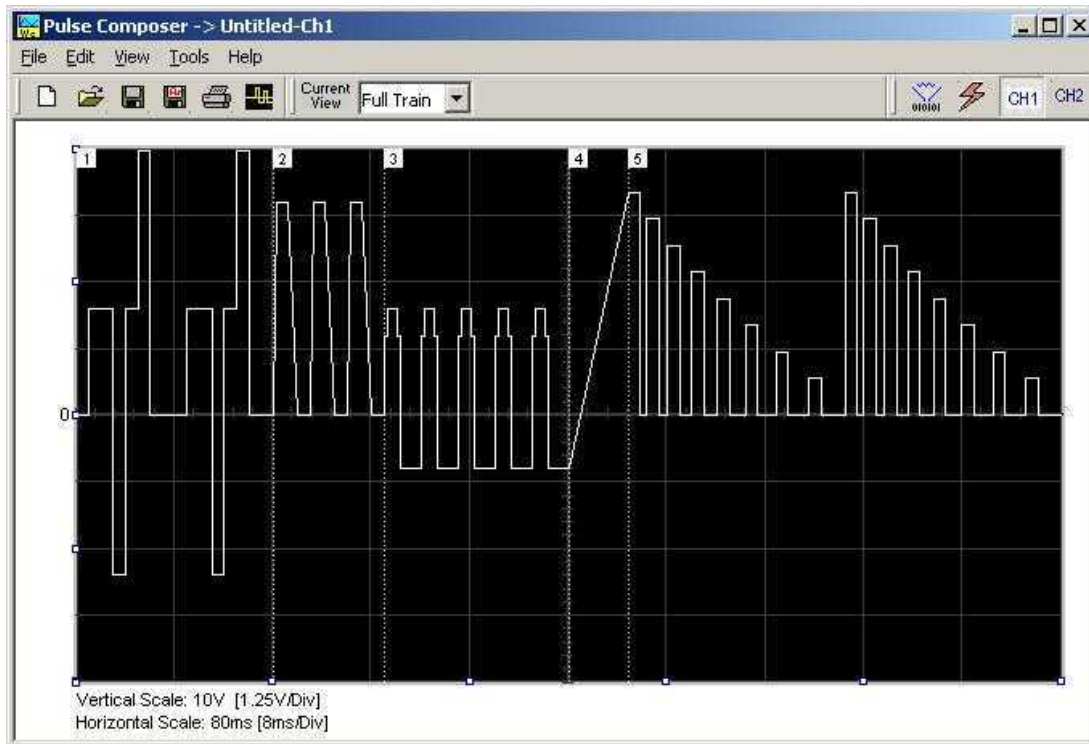
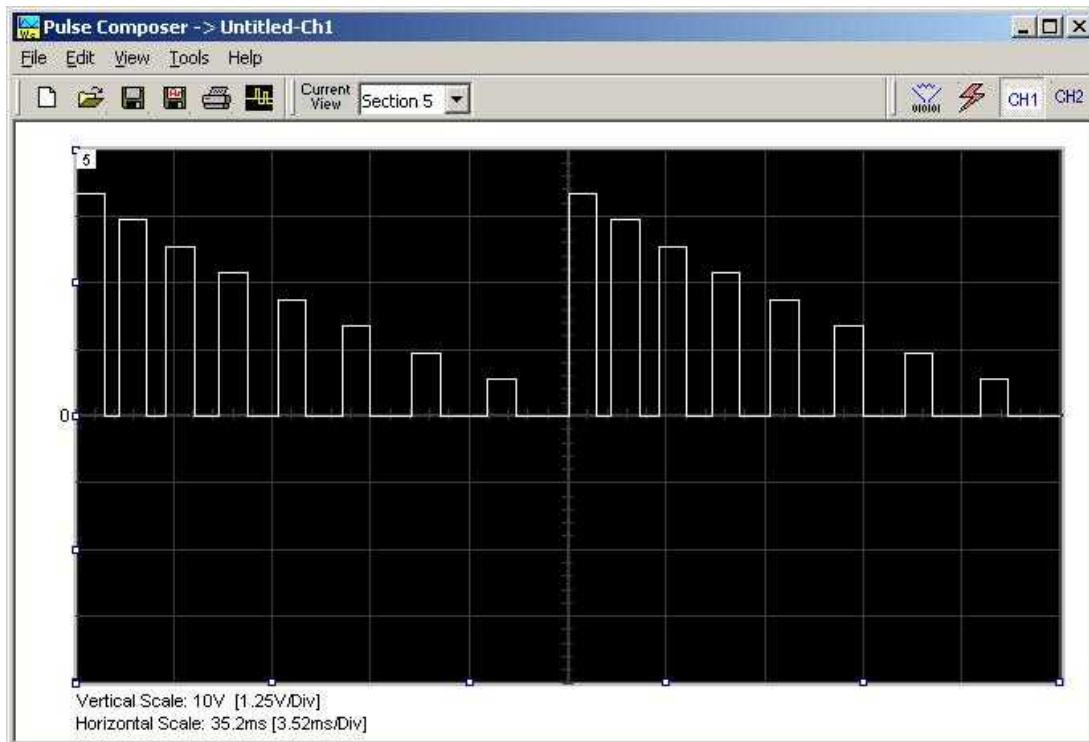
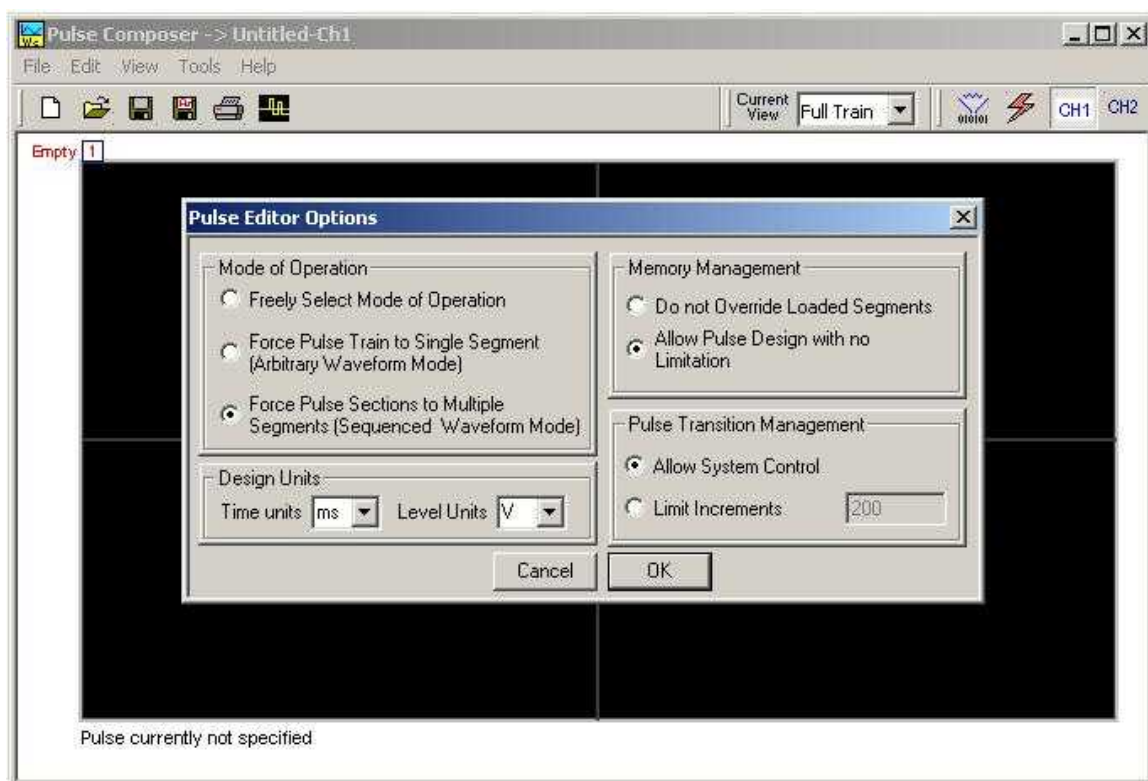
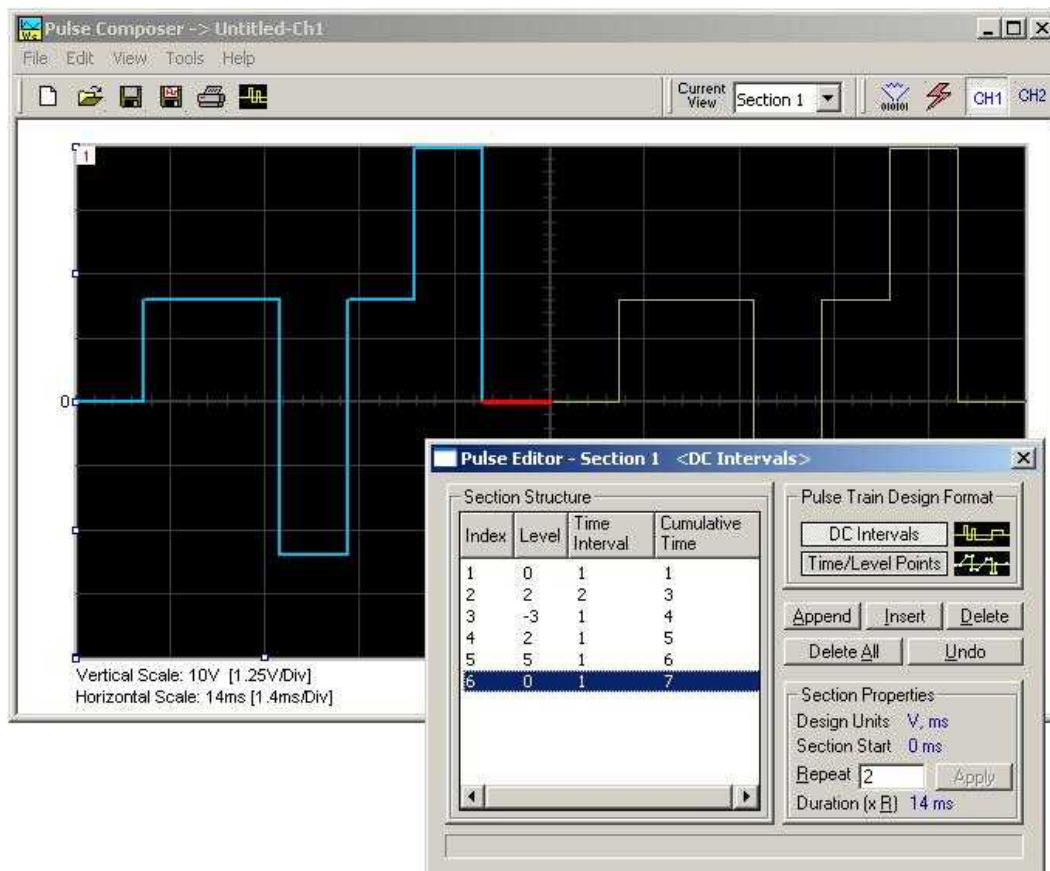

Figure 4-47, Complete Pulse Train Design
Figure 4-48, Section 5 of the Pulse Train Design
Figure 4-49, Selecting Pulse Editor Options
Figure 4-51, Building Section 1 of the Pulse Example
Pulse train is constructed from 1 or more sections. If the pulse is simple, it can be created using one section only. For more complex pulse train, the train can be divided to smaller sections and each section designed separately for simplicity. Figure 4-47 shows a complex pulse train which was made from five simpler sections and Figure 4-48 shows the design of the fifth section only of the pulse train.
Now that we somewhat understand the terms we use for the pulse design, we start with an example how to design the pulse train as shown in Figure 4-47. If you already have some pulses shown on your pulse composer screen, click on New to start from a fresh page. Another step before you design your pulse train is to set the design parameters in the options menu that will determine the way that the pulse will be distributed in your waveform memory. Click on View→Options and refer to Figure 4-49 throughout the following description.
As shown in Figure 4-49, the pulse editor option dialog box is divided to functional groups: Mode of operation, Design Units, Memory Management and Pulse Transition Management. These groups are described below.
Now that we are better familiar with the pulse editor and its options, we are ready to start building the first section of the pulse as shown in Figure 4-47. Point and click on the New icon and open the pulse editor. Type in the level and time intervals as shown in Figure 4-51. Note that the pulse segments are being created on the screen as you type the values.
The first pulse section is complete. We are ready now to start building the second section of the pulse as shown in Figure 4-48. Point and click on the Edit command and select the Append Section option. A new section number will appear but it will show empty next to the section identifier.
The second pulse section is complete. We are ready now to start building the third section of the pulse as shown in Figure 4-48. Point and click on the Edit command and select the Append Section option. A new section number will appear but it will show empty next to the section identifier.
**Pulse Example, Section 4** The third pulse section is complete. We are ready now to start building the fourth section of the pulse as shown in Figure 4-48. Point and click on the Edit command and select the Append Section option. A new section number will appear and will show empty next to the section identifier.
The fourth pulse section is complete. We are ready now to start building the fifth and final section of the pulse as shown in Figure 4-48. Point and click on the Edit command and select the Append Section option. A new section number will appear and will show empty next to the section identifier.
Congratulations for coming that far. If you followed the above description how to build this pulse example, the screen should look exactly as shown in Figures 4-47 and 4-55. If you are happy with the results, the next step is to download what you see on the pulse composer screen to the generator.